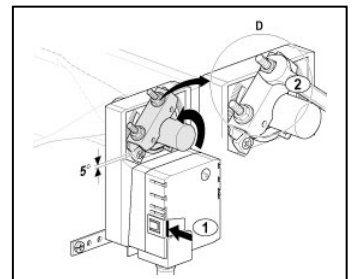

Fig A-3
8. With damper in CLOSED position, loosen the shaft clamp nuts; and press the manual release button and rotate the clamp to approximately 1/16" to 1/8" (5°) from the close stop. Tighten both clamp nuts. **See Fig. A-3**